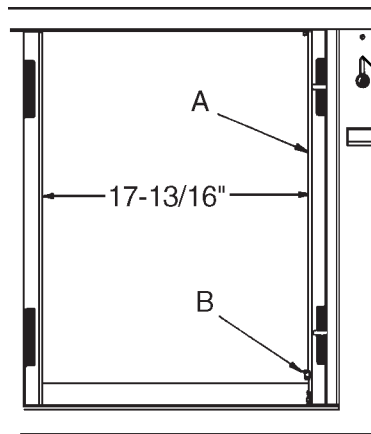

Figure 5. Support Panel
6. The Drawer Support Panel (Figure 5. Item A) has four wing nuts (B) that are used to adjust the spring loaded panel. Adjust these wing nuts as necessary to obtain an approximate measurement of 17-13/16" between the left and right support panels. It is important to measure across all four corners.